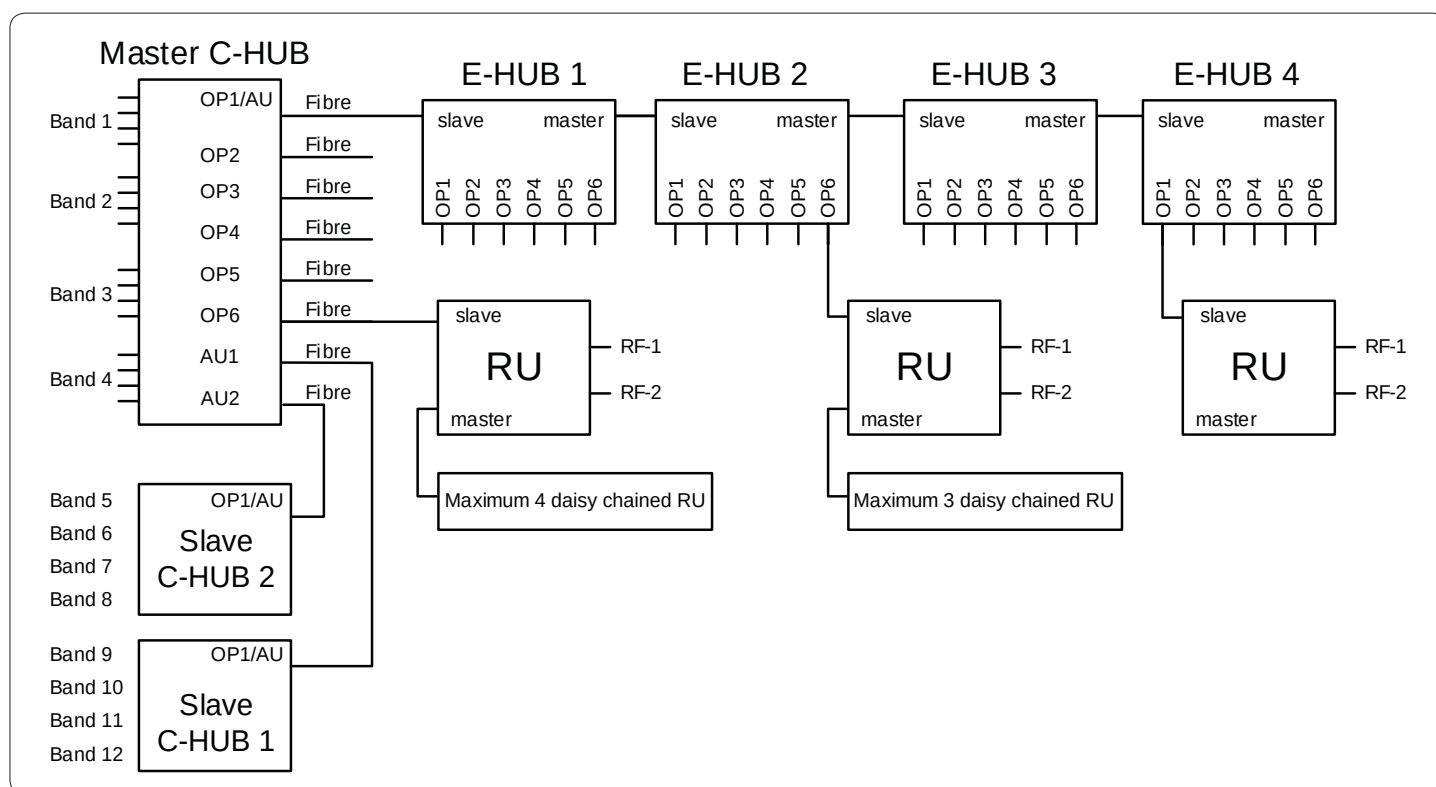

Fig. 2: Networking layout
K-BOW enables different networking layouts as shown in Fig. 2. The following applies:
- In smaller systems, the C-hub and RU can be directly connected without the E-hub, as shown in Fig. 2.
| Fig. 2: | Networking layout            | 10 |